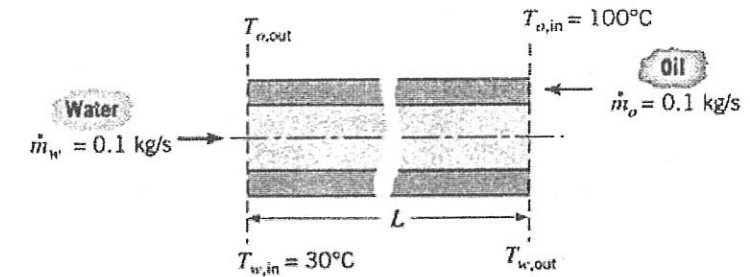

Figure 5
- (b) A concentric tube heat exchanger for cooling lubricating oil consists of a thin-walled inner tube shown in Figure 5, of 25-mm diameter carrying water and an outer tube of 45-mm diameter carrying the oil. The exchanger operates in counterflow with an overall heat transfer coefficient of $55 \text{ W/m}^2.\text{K}$ and the tabulated average properties.